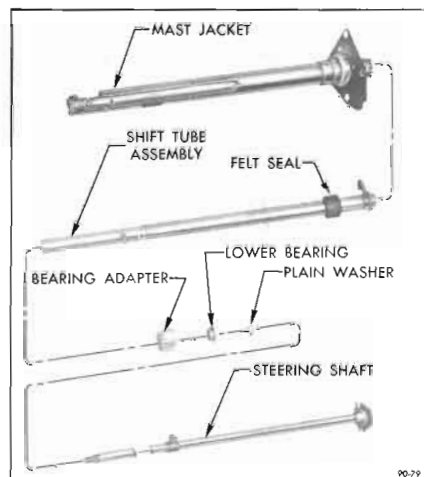

Figure 90-79—Disassembly of Lower Portion of Automatic Transmission Mast Jacket (All Series)
11. Remove two screws (43-44000 only) securing bearing adapter assembly to mast jacket and withdraw steering shaft, washer, bearing, bearing adapter, shift tube and felt seal from mast jacket. See Figure 90-79.